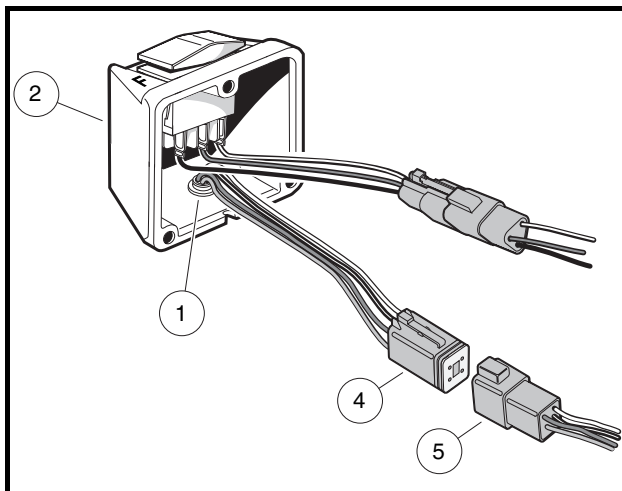

Figure 22-8 IQDM Jack On F&R Switch Housing
- 3.1. Remove the three self-tapping screws that hold the F&R rocker switch housing (2) to the body (Figure 22-8, Page 22-18).